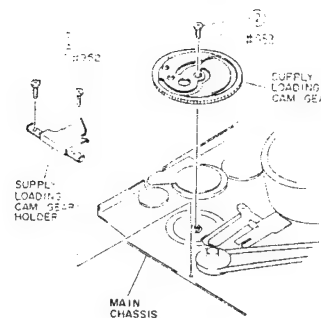

Fig. 2-68
- 1) Remove two (2) screws holding the supply loading cam gear holder. (See Fig. 2-68)
- 2) Remove one (1) screw holding the supply loading cam gear.